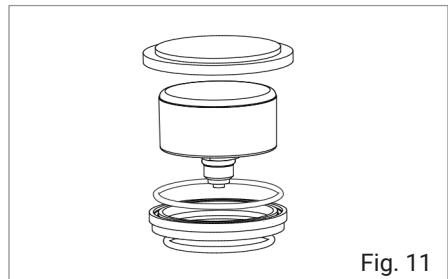

Fig. 11
- 6 Now install the new manometer (31) by placing the larger O-ring (34) in the groove of the new housing ring (35) at the top, placing the slightly smaller O-ring (36) in the manometer holder from below and sliding both over the new manometer from below (Fig. 11).
8 When replacing the protective glass (33), you only need to unscrew (step 4) the manometer holder (32) from the air pump casing (19) and replace the existing protection glass with the new one. When inserting the new protective glass, make sure that the small diameter is at the top (Fig. 11).